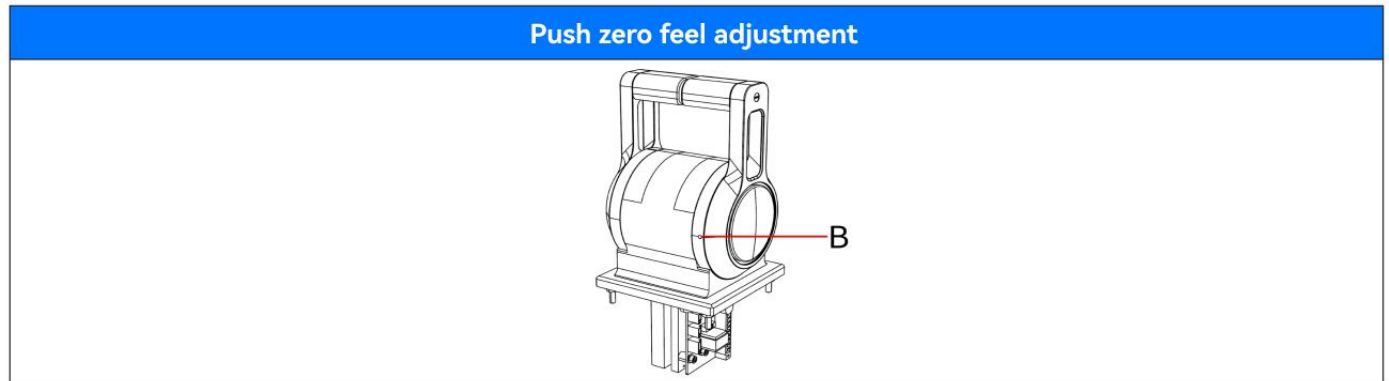

Figure 4.2
2. As shown in Figure 4.2, use an Allen wrench at B to rotate and adjust the strength of the push zero feel.